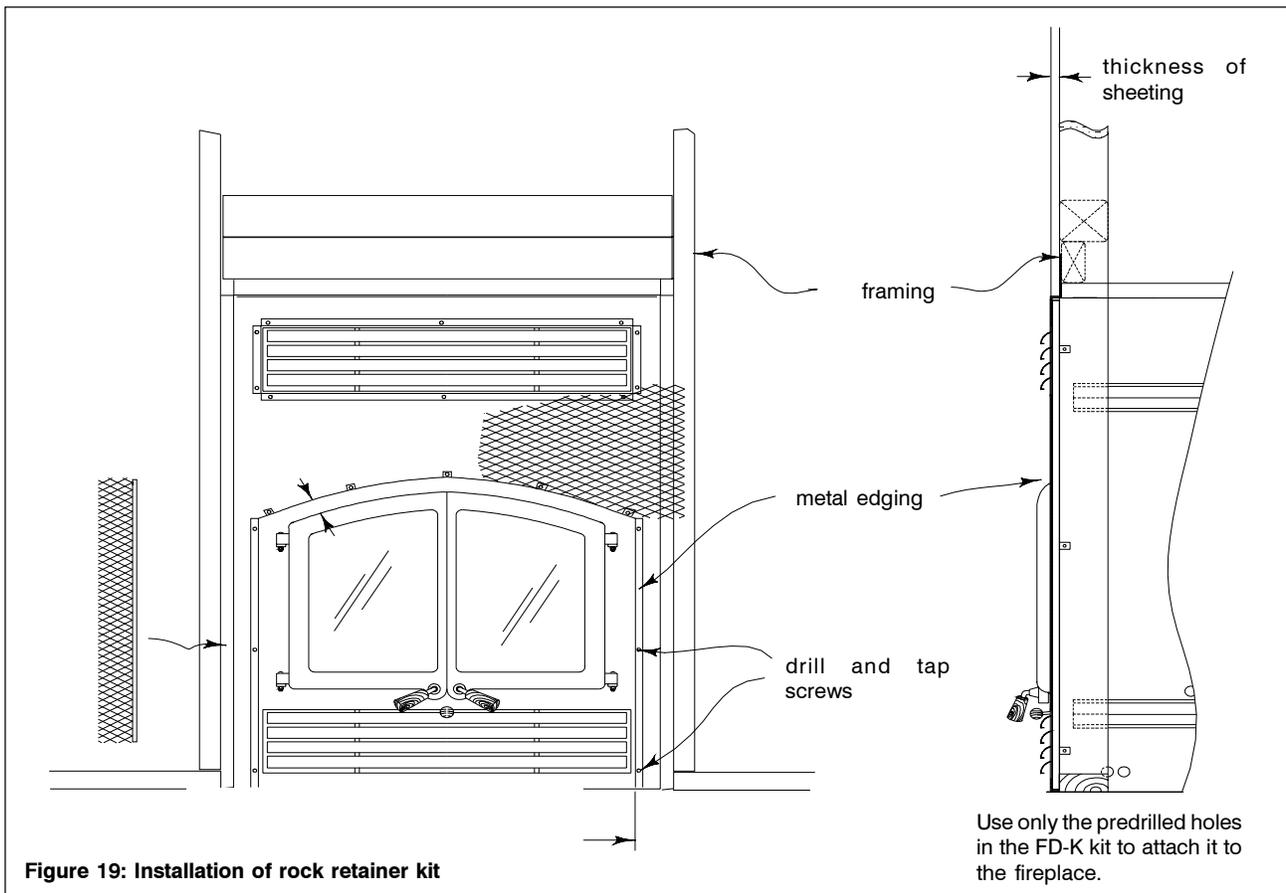

Figure 19: Installation of rock retainer kit
1. Install the expanded metal on the top half of the fireplace using drill and tap screws at locations shown (see figure 19). If there is a bypass rod above the door, allow for it to come through. For thick rock, the rod extension (part R6414) may be required.